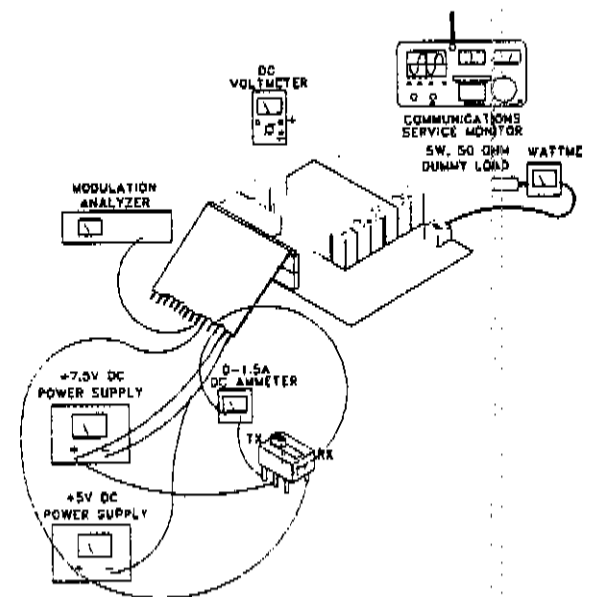

Figure 6-1 TRANSMITTER TEST SETU
1. Connect the test setup shown in Figure 6-1. Set the power supply for +7.5V DC. See Figure 2-1 for interface cable.
1. Connect the test setup shown in Figure 6-1. A DC ammeter capable of measuring up to 1.5A should be installed in the supply line.
1. Connect the test setup shown in Figure 6-1.